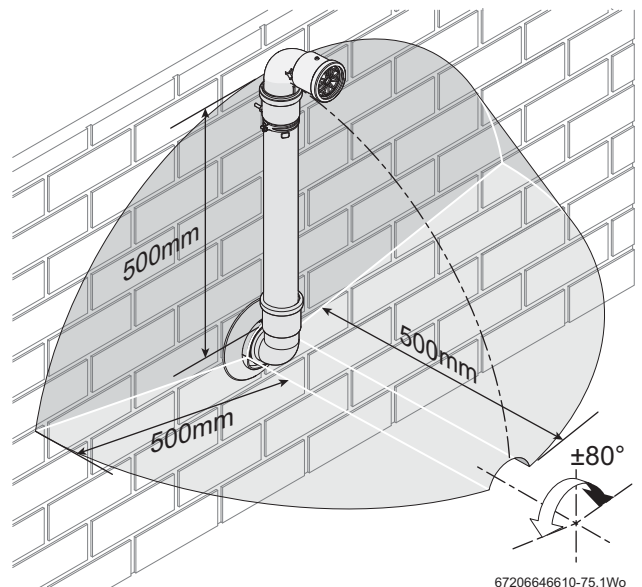

Fig. 36 Terminal exclusion zone
- ▶ Do not terminate the plume management inside the shaded area shown in figure 36